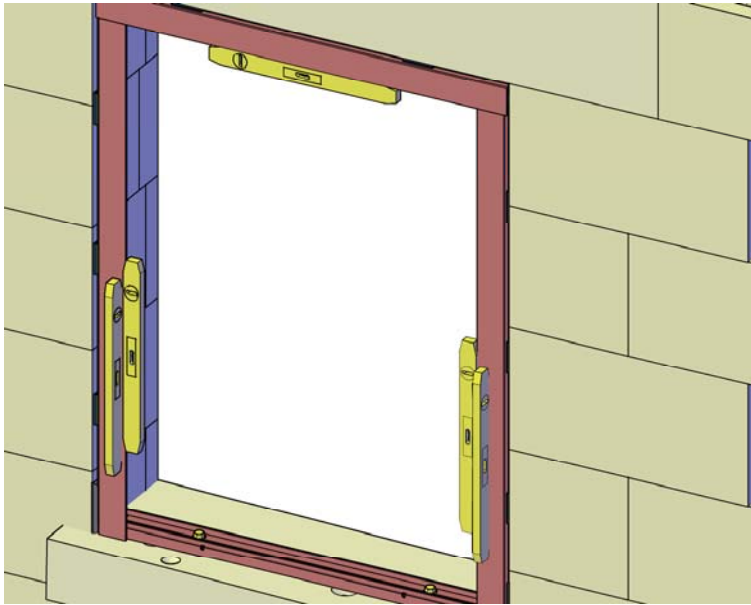

Fig. 14 - Viewed from Building Exterior
10) Place the head & jamb receptors into position and insert shims below to achieve a plumb & level installation plane. The shim stack height should be no less than 1/4" to afford sufficient space for the primary silicone weather seal. Consult the sealant manufacturer's documentation to ensure their minimum recommended sealant gap is achieved. Establish the anchor locations and anchor size. The thermal barrier of the sub sill may not be penetrated by the anchor or the anchor's clearance hole. Anchor design, (type, diameter, minimum embedment, minimum edge distance, maximum O.C. spacing, etc. are project specific as well as specific to each window opening type. Unless specifically contracted to do so, WINCO will not provide an anchor schedule or make anchor recommendations. WINCO does not provide perimeter anchors / fasteners. All anchor locations must be fully supported by a shim stack made from non-compressible shims to prevent bowing and twisting of the sub sill when the anchors are tightened. See Fig. 14 & 15